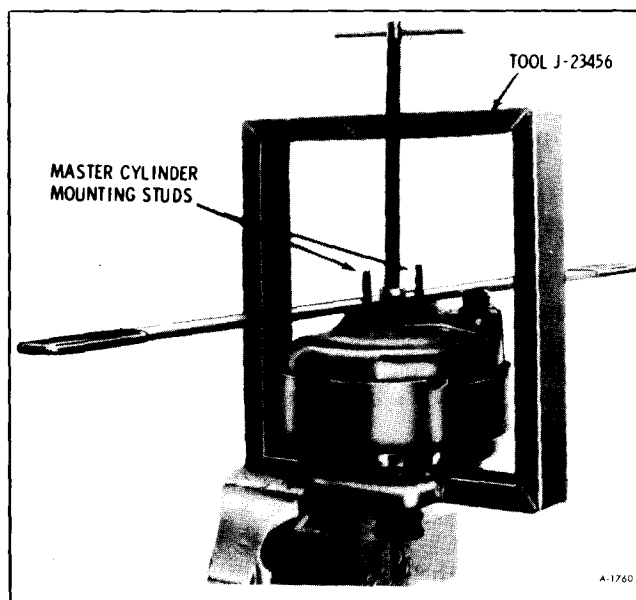

Figure 36—Separating Halves
4. Install Tandem Diaphragm Separating Tool J-23456 as shown in Figure 36.